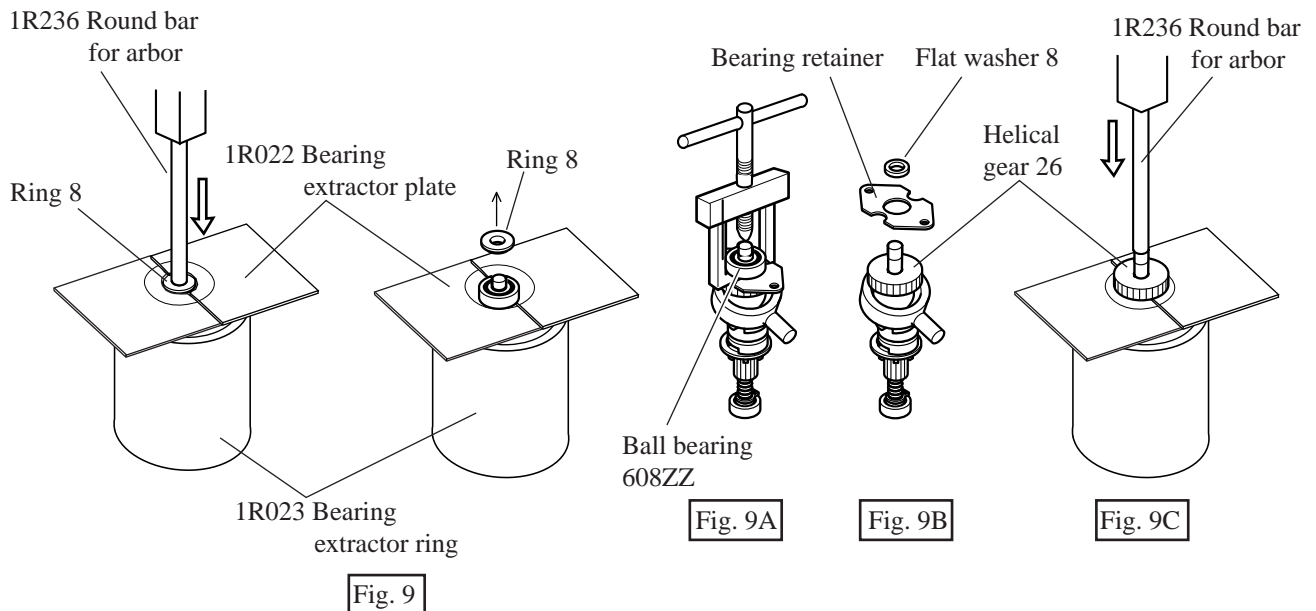

Fig. 9
1. Disassemble ring 8 by pressing with arbor press as illustrated in Fig. 9.